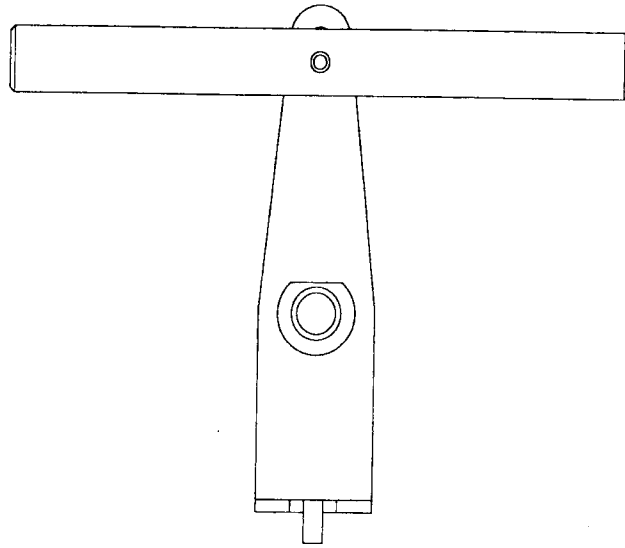

Fig. 14
- g. If armature and crank are to be replaced, remove the armature/crank assembly from the coils by sliding the coils and coil brackets off of the armature. (See Fig. 14)